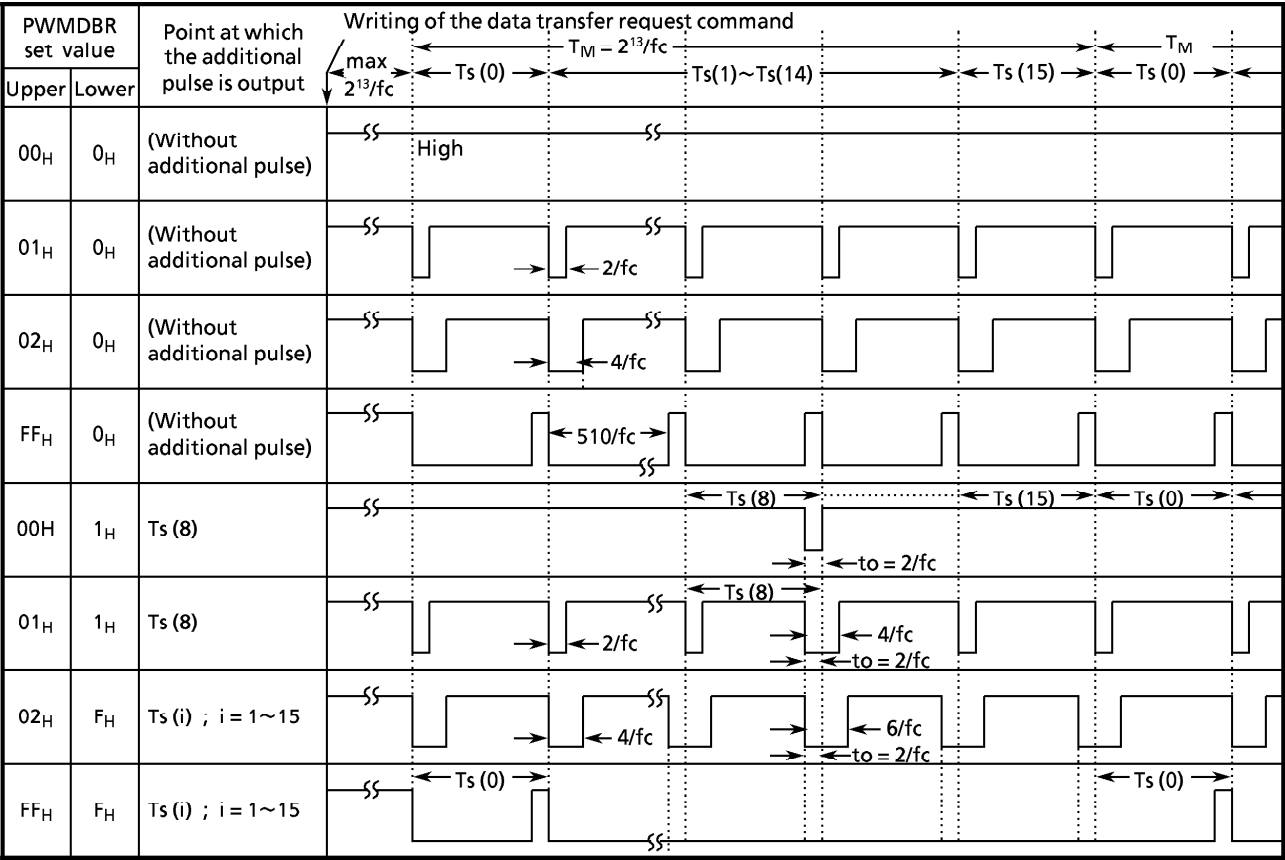

Figure 2-68 (3). PWM Output Pulse
(6) PWM output pulse stop
To output always "H" after T_M period ($T_s(0)$ to $T_s(15)$) of the PWM pulse which is being written is completed, "00_H" must be written to the lower and the upper of PWMDBR according to the procedures mentioned in figure 2-68 (2) and the data transfer request command must be written. Note that the maximum time from the point at which "00_H" is written until PWM pulse is always output by "H" is $2^{13}/f_c$.
(7) PWM output pulse abort ("H" is always output.)